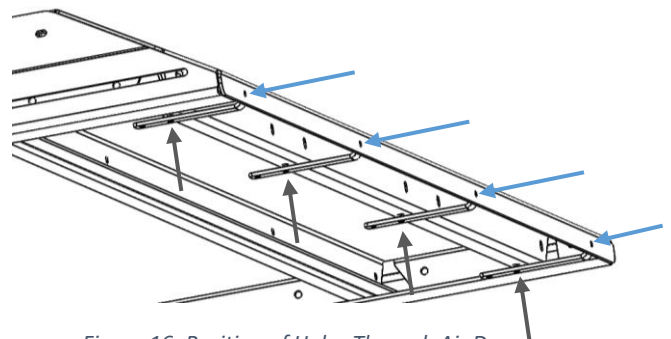

Figure 16: Position of Holes Through Air Dam
10. Install the four (4) Air Dam Brackets into the front lip of the air dam in the locations as shown in Figure 16.
11. Secure the Air Dam Brackets by bolting through the bottom lip of the front-most panel using the #10-32 x 5/8" hardware (bolt, washers, and nut) as shown in Figure 16.